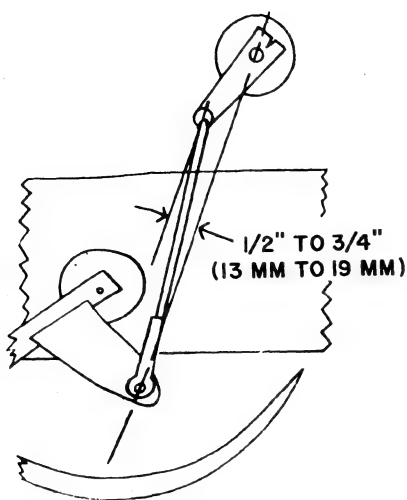

FIGURE 71
- a. Rotate the knotter/twister assembly until the needle yoke is $\frac{1}{2}$ "- $\frac{3}{4}$ " (13-19 mm) past the center line as shown in Figure 71.